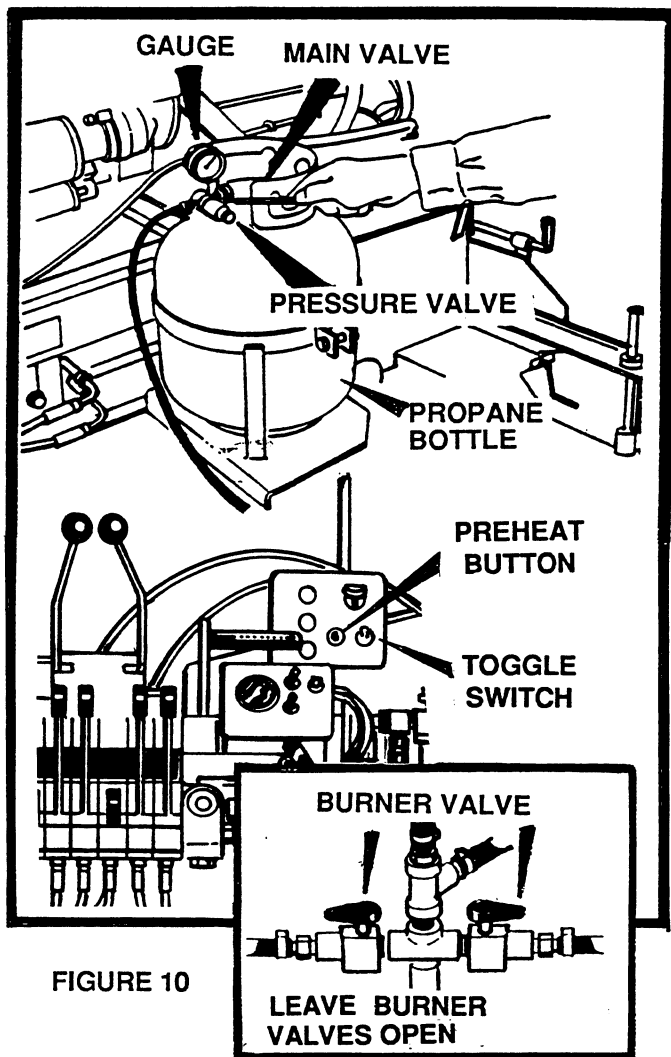

FIGURE 10
1. Turn main valve on the propane tank counter-clockwise to "on" position as shown in figure 10.
2. Adjust pressure valve in or out until gauge reads between 6 and 8 pounds as shown in figure 10.
To light automatic burners, turn propane main valve on, push preheat button for 5 seconds, turn burner toggle on, when screed has heated, switch off. TURN PROPANE BOTTLE OFF DAILY. See figure 10.